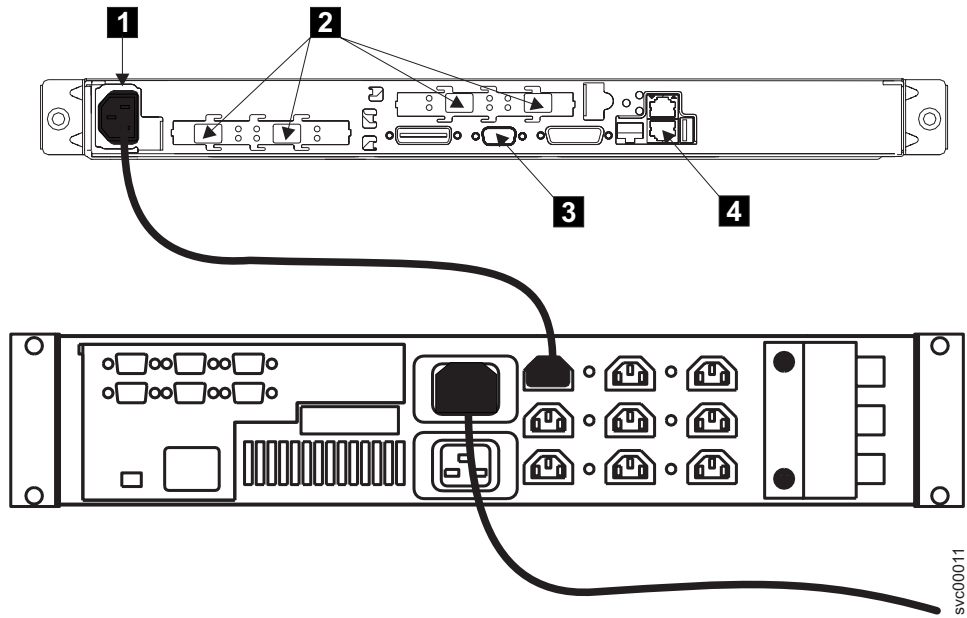

Figure 3. Power cable and signal sockets for the SAN Volume Controller 2145-4F2 and 2145 UPS
2. Ensure that the power cable is plugged into the 2145 UPS. Also, ensure that the other end of the power cable is connected from the 2145 UPS to the distribution point in the rack. Figure 3 on page xxxvi shows the connectors for the SAN Volume Controller 2145-4F2 and the 2145 UPS. The power cable connector is shown as **1** in the figure.